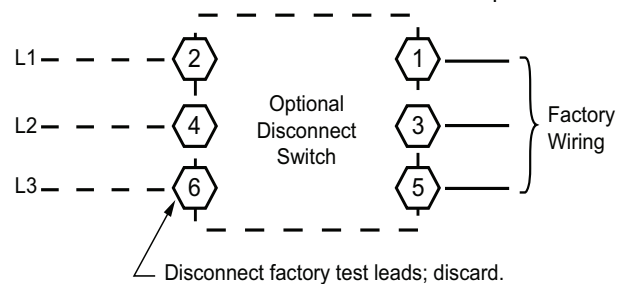

Fig. 24 — Power Wiring Connections
The field power wires are connected to the unit at line-side pressure lugs on compressor contactor C (see wiring diagram label for control box component arrangement) or at factory-installed option non-fused disconnect switch. Maximum wire size is No. 2ga AWG (copper only) per pole on contactors and No. 2ga AWG (copper only) per pole on optional disconnect. See Fig. 24 and unit label diagram for field power wiring connections.
The factory-installed option non-fused disconnect (NFD) switch is located in a weatherproof enclosure located under the main control box. The manual switch handle and shaft are shipped in the disconnect enclosure. Assemble the shaft and handle to the switch at this point. Discard the factory test leads (see Fig. 24).
All field wiring must comply with NEC and all local codes. Size wire based on MCA (Minimum Circuit Amps) on the unit informative plate. See Fig. 24 and the unit label diagram for power wiring connections to the unit power terminal blocks and equipment ground. Maximum wire size is No. 2ga AWG (copper only) per pole on contactors. See Fig. 24 and unit label diagram for field power wiring connections.
2. Install power lines to terminal connections as shown in Fig. 24 on page 17.